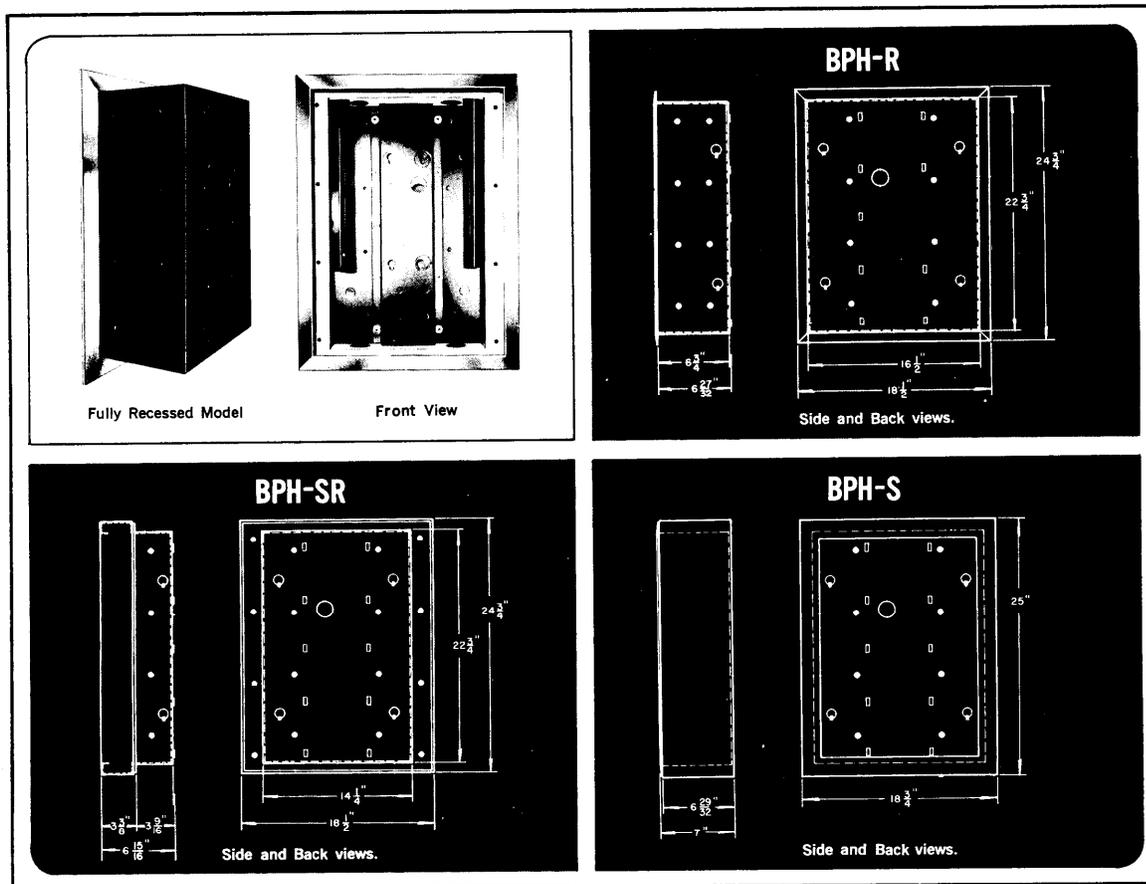

Fig. 2
2.03 Figure 2 provides dimensions for all three housings.